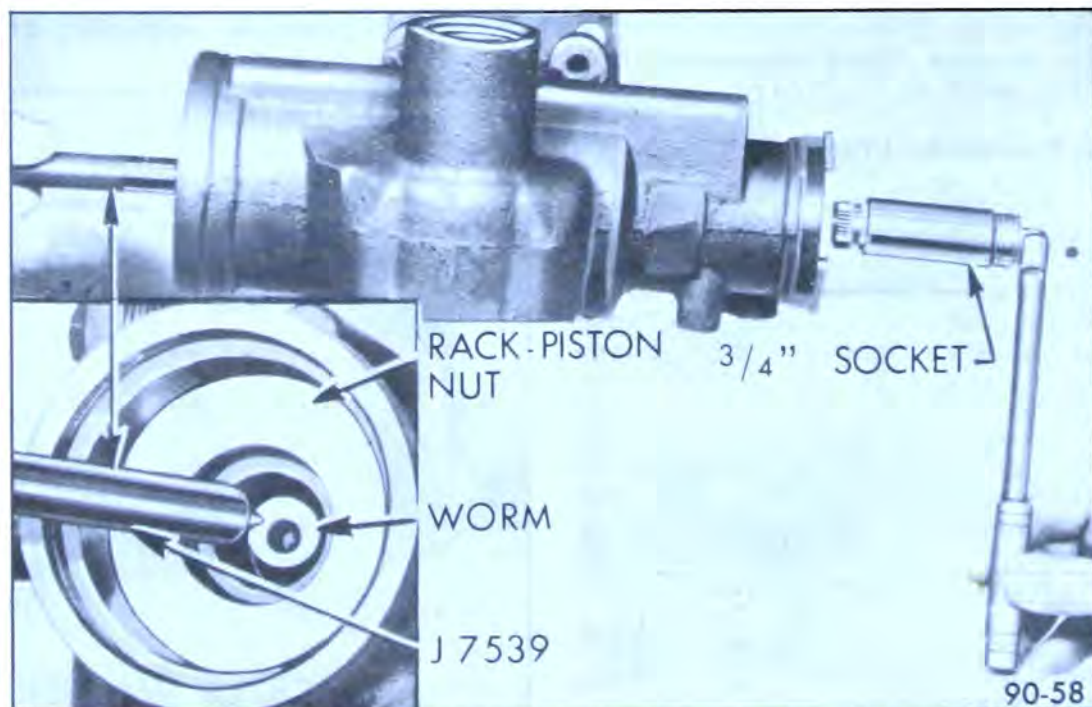

Figure 90-54 Removing Rack-Piston Nut
7. Insert ball retaining tool J-7539 in end of worm. See Figure 90-54. Turn stub shaft so that rack-piston nut will go onto the tool and remove rack-piston nut from gear housing. Keep ball retaining tool completely through rack-piston nut to prevent balls from falling out.